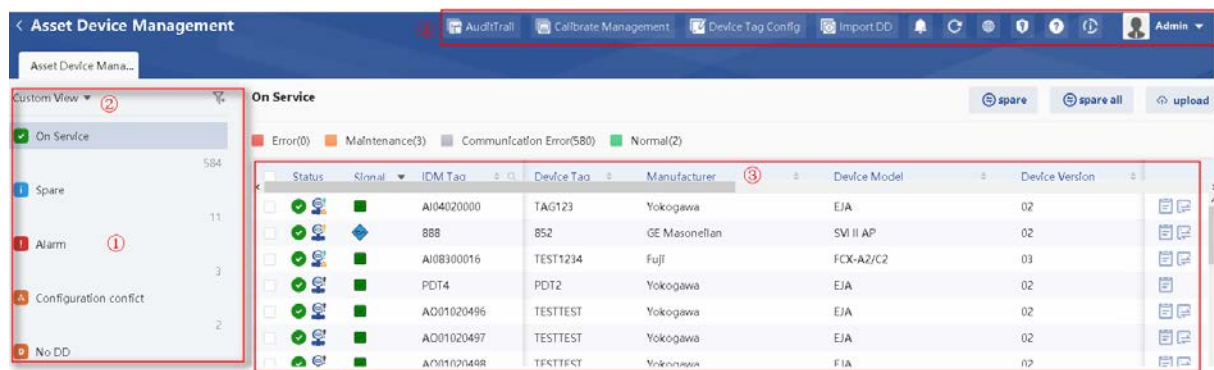

Figure 7-1 Device Asset Management
- Custom view: the custom view is shown in Figure 7-1. Under this category, you can find the device tags by category, and set custom category. For details, refer to “Custom View”. Under category of “On service” and “Spare”, you can switch the device status.
- Plant view: plant view is shown in Figure 7-1. Under the plant view, you can create enterprise view hierarchy according to the process hierarchy allocation, and view device. For details, refer to Plant View.
- Manufacturer list: plant list is shown in Figure 7-1. Under the manufacturer list, you can view device tags according to the manufacturer list. The interface includes device view and template view tabs. Under template view, you can create or import device's offline templates. For details, refer to Offline Template.